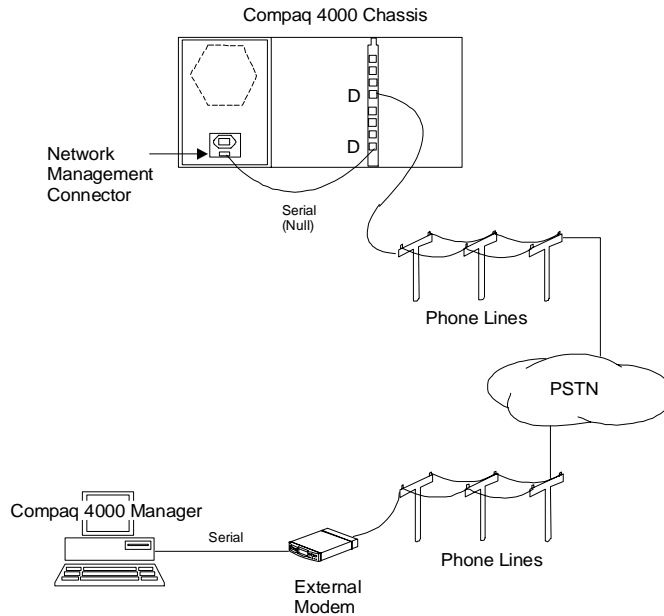

Figure 2-17. Connecting to a 4000 Chassis Modem
3. Attach one end of a serial null modem cable (Compaq supplies an RJ45 to DB9 serial null modem cable adapter and an RJ45-to-RJ45 serial null modem cable with your chassis) to the network management connector on the rear of the chassis' power supply. See Figure 2-17.
4. Attach the other end of the serial null modem cable to a 4000 modem's RJ45 style serial connector. See Figure 2-17.